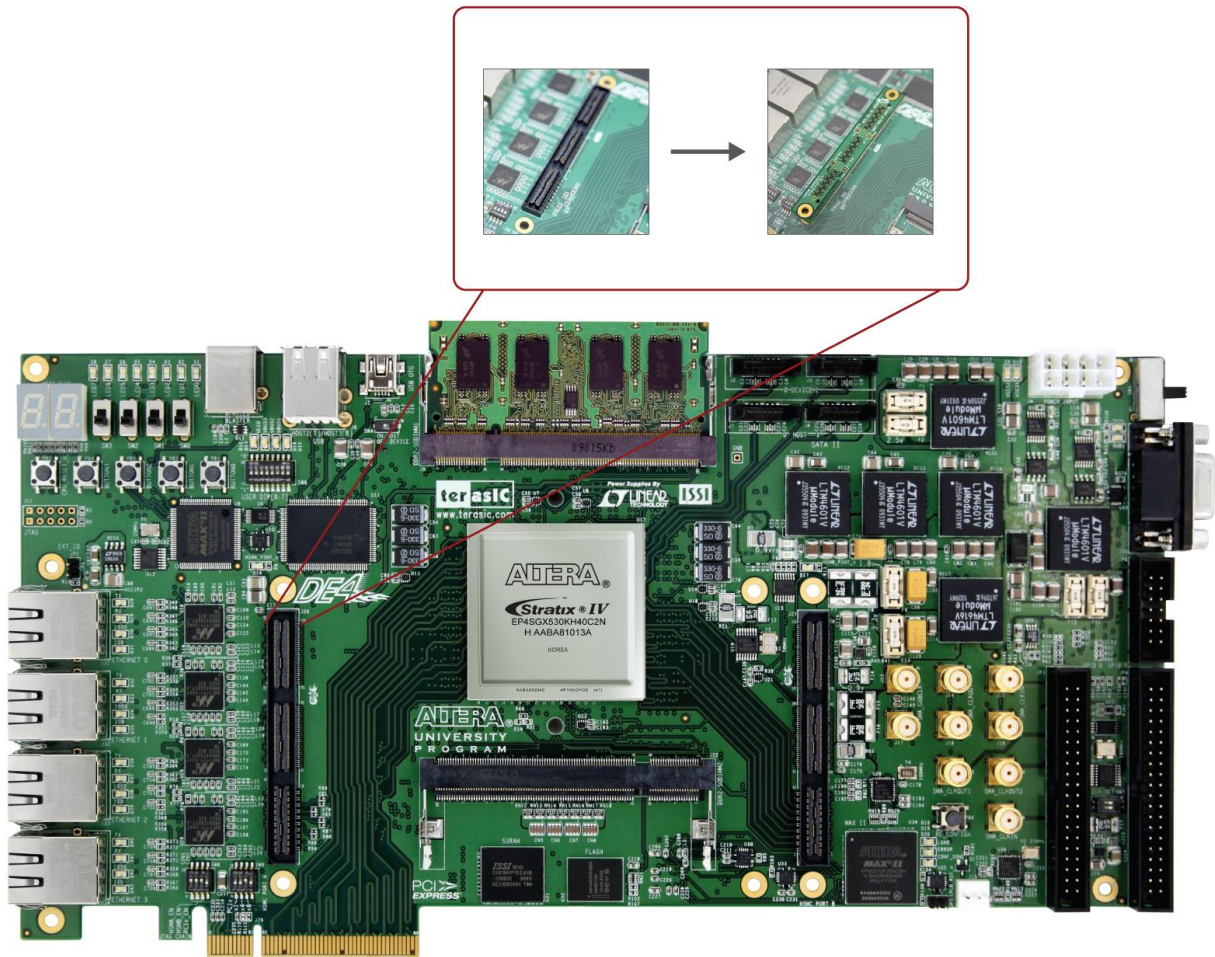

Figure 5–41 HSMC port A loopback design setup
- Insert the HSMC loopback daughter card onto the HSMC port A as shown in **Figure 5–41**.